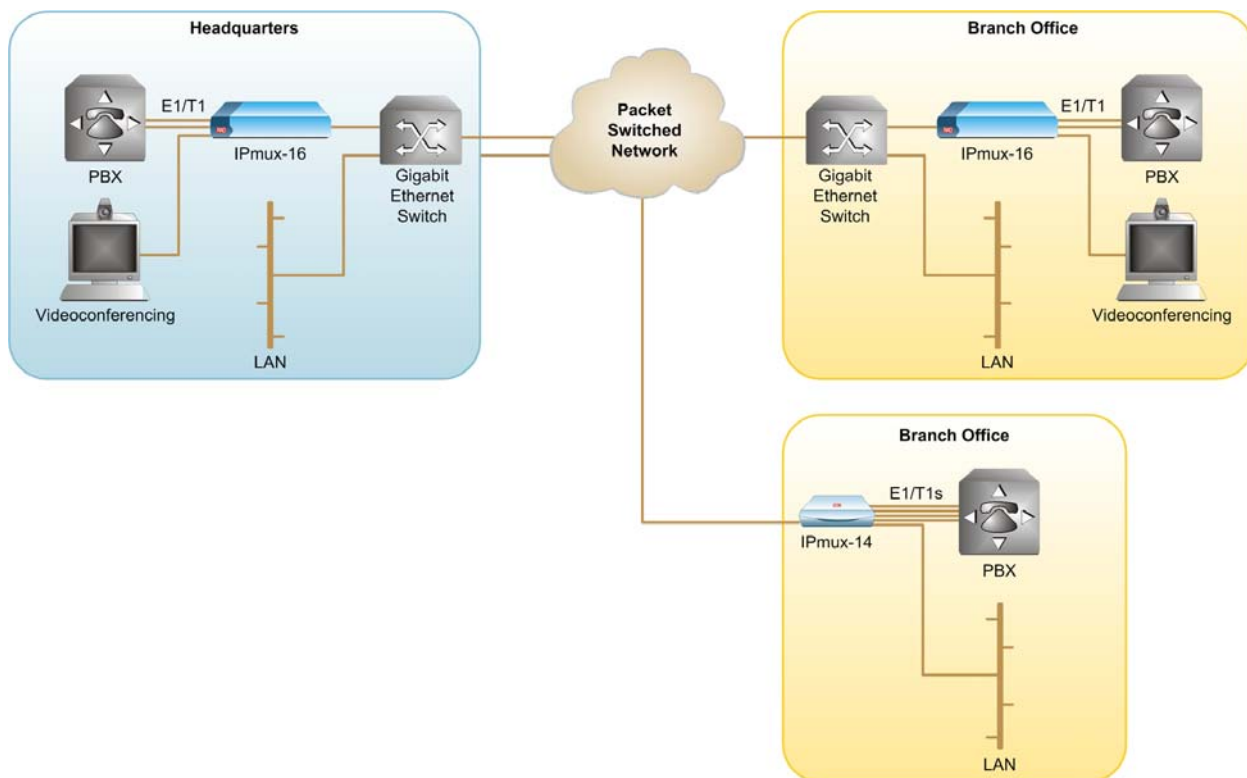

Figure 1-2. Enterprise Connectivity over Campus or Metro Area Networks
- Figure 1-2 shows enterprise connectivity over campus or Metropolitan Area Networks.